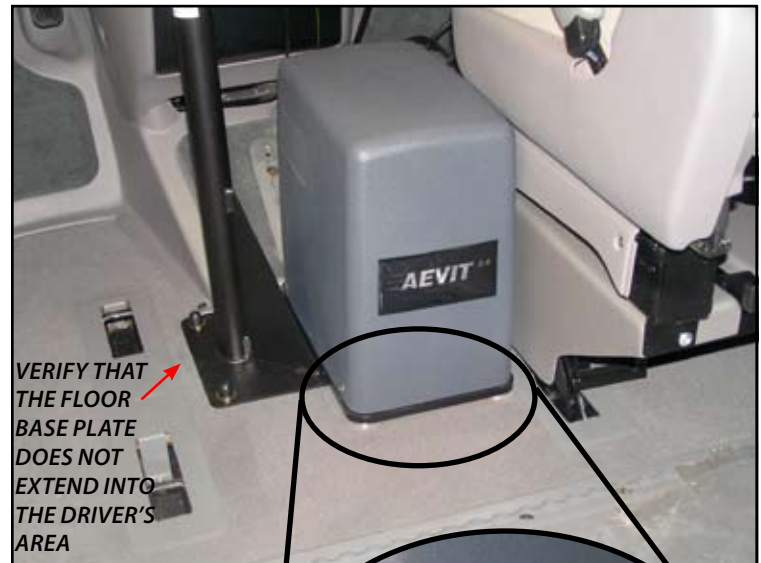

FIGURE 4B
WHEN MOUNTING THE AEVIT 2.0 CHASSIS IN THIS CONFIGURATION, YOU WILL NEED TO PROVIDE FOUR (4) SPACERS WHICH ARE AT LEAST 1/2" THICK TO RAISE THE CHASSIS OVER THE FLOOR BASE PLATE AND ITS MOUNTING BOLTS. THESE SPACERS ARE SHOWN IN FIGURE 4B.